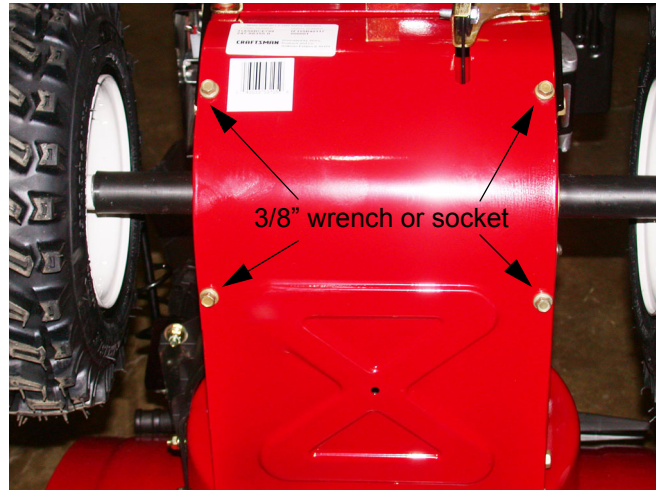

Figure 3.7
- 3.7. Remove the access panel located on the bottom of the machine between the wheels. See Figure 3.7.